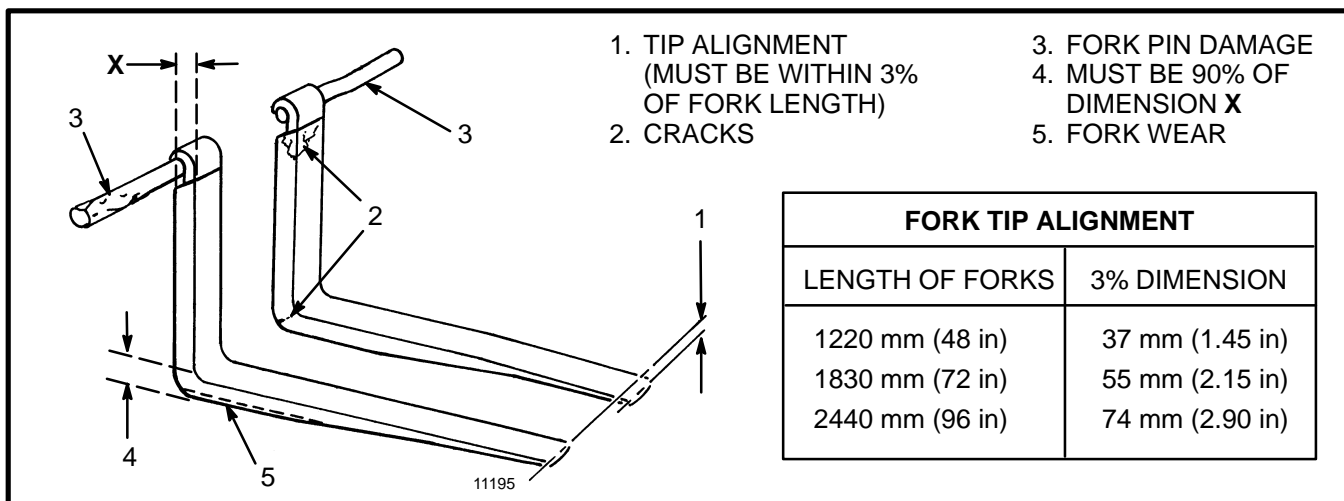
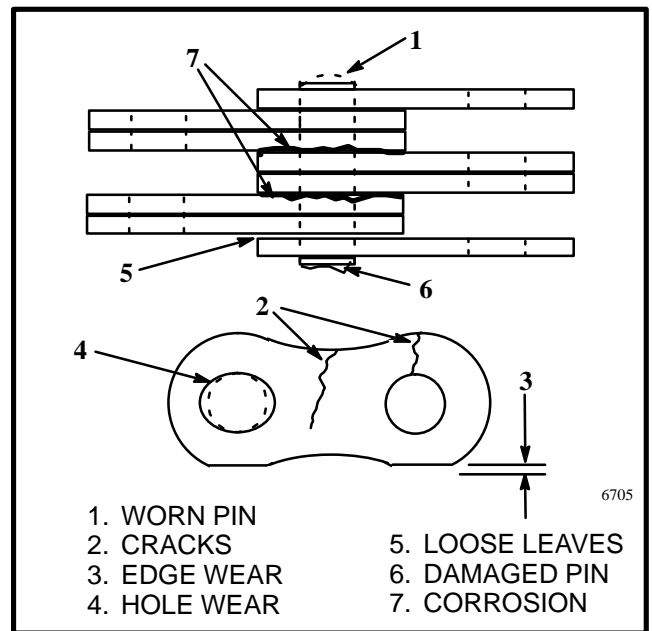

FIGURE 5. CHECK THE FORKS
FIGURE 6. CHECK THE LIFT CHAINS
Inspection of Forks, Mast and Lift Chains (See FIGURE 5. and FIGURE 6.)
3. Inspect the forks for cracks and wear. Check that the fork tips are aligned (item 1, FIGURE 5.). Check that the bottom of the fork is not worn (item 8, FIGURE 5.).
7. Inspect the lift chains for cracks or broken links and pins. (See FIGURE 6.)